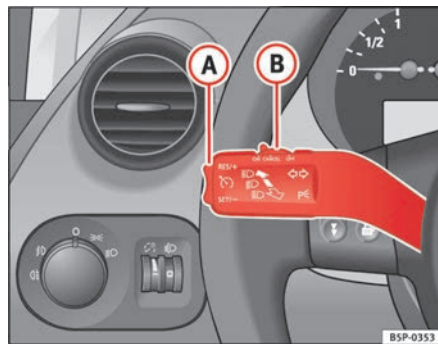

Fig. 145 Turn signal and main beam headlight lever switch and rocker switch for the cruise control
- Push the switch ⇒ fig. 145 (B) to the left to **ON**.